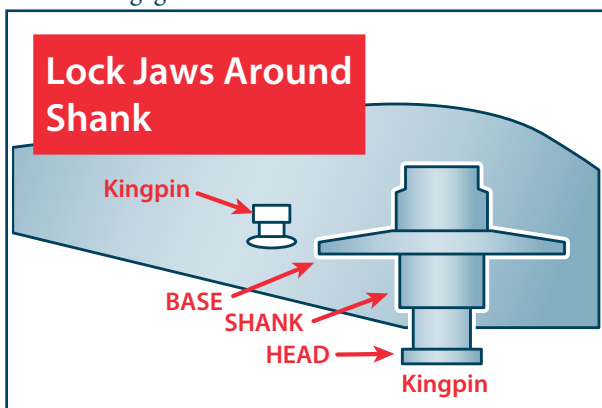

Figure 6.8
- ▲ Locking jaws around the shank, not the head of kingpin. See Figure 6.8.